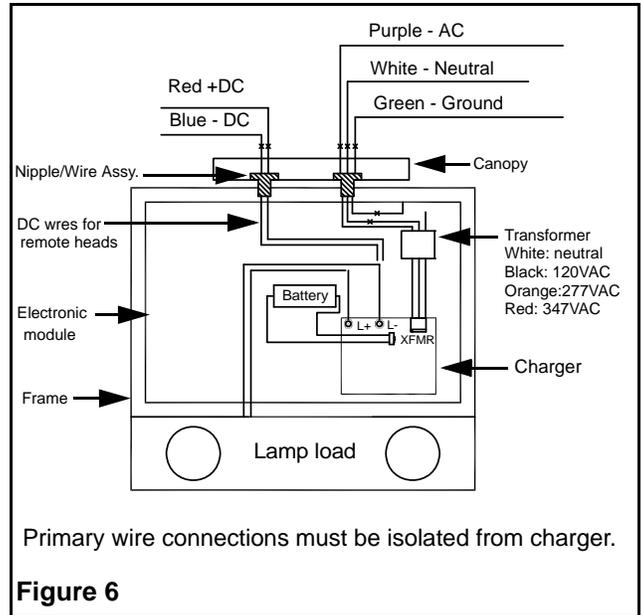

Figure 6
2. **Electrical connections:** Using the sealed AC nipple/wire assembly (3 wires), connect one end to the transformer leads inside the enclosure and the other end to AC line voltage inside the junction box. Connect the white lead to neutral and the green lead to ground. Connect the purple lead to AC line voltage and to appropriate transformer lead (See figure 6 for color code).
For models with DC remote capacity, the sealed DC nipple/wire assembly (2 wires) will also need to be installed. One end connects to the AD charger terminal block inside the enclosure and the other end to DC output inside the junction box. Connect the red lead to positive, and the blue lead to the negative of the remote DC output (See figure 6).